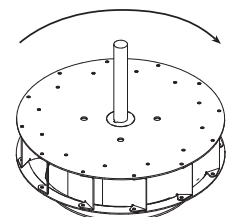

Figure 14
3. All CUE and CUBE units - Check wheel rotation (viewing from the shaft side) by momentarily energizing the unit. Rotation should correspond to the rotation decal on the unit, see *Figure 14.* If wheel rotation is incorrect, reverse two of the wiring leads or check motor wiring for single phase.
3. Start the fan and shut it off immediately to check rotation of the wheel with directional arrow in the motor compartment, *Reference Figure 14*.